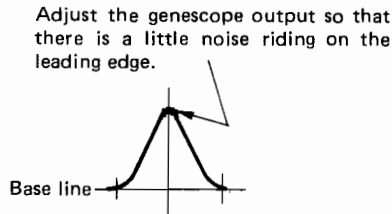

Fig. 1
1. Feed in a weak signal to TP3 from the genescope. Adjust T201 for maximum gain and the waveform shown in Figure 1. If the center of the waveform cannot be lined up on the marker, adjust the right/left balance.